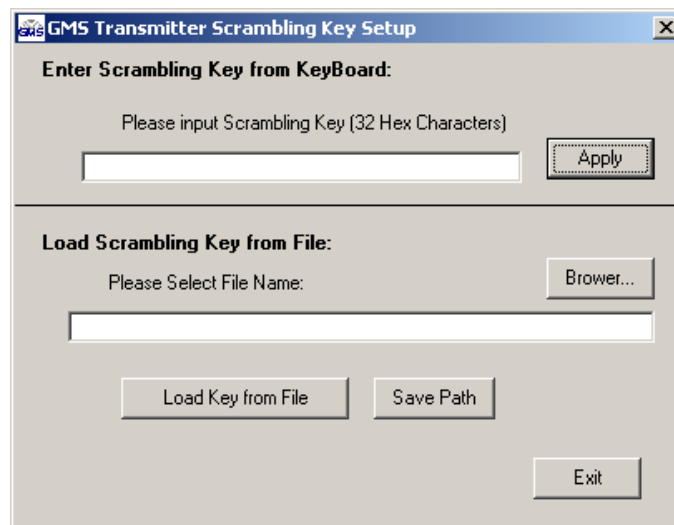

Figure 7 - Scrambling Key Setup
- **Scrambling Key (Option, This menu not available if option not purchased))** – This menu displays the following (see Figure 7):